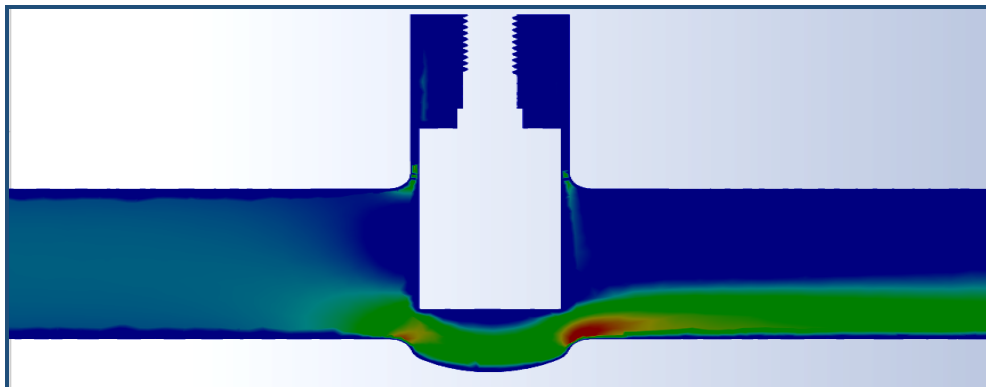

Figure 6.2: Velocity contour through gate valve
5. Analyze the results using the Ansys CFD post to get the flow contour as shown in Figure 6.2.